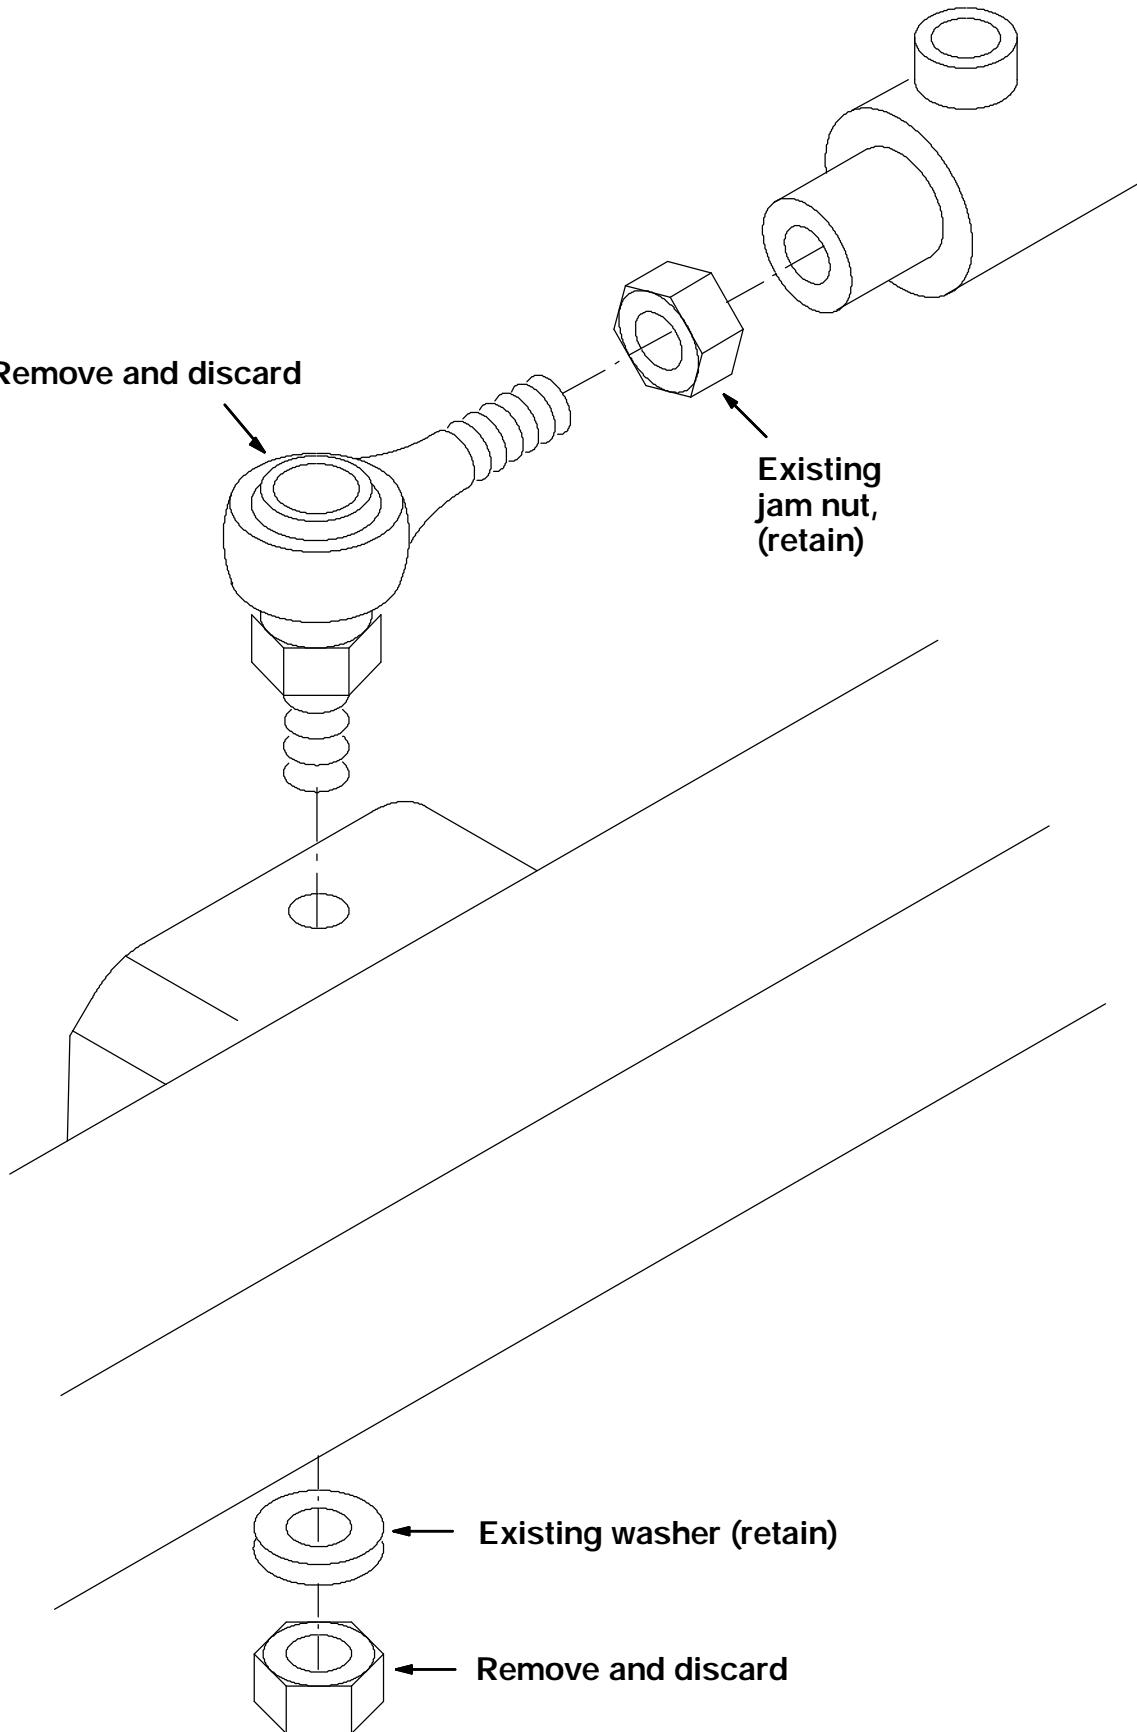

FIG. 3 - Old Style Front Steering Cylinder Balljoint Assembly
(Refer to FIG. 3 and 4)
5. Remove the nut from the bottom of the existing ball joint at the front of the steering cylinder. Lift the cylinder up far enough to remove the balljoint from the steering cylinder. Loosen the jam nut on the cylinder. Remove and discard the existing ball joint. Retain the jam nut. (Refer to FIG. 3 and 4)
1. Install the new balljoint (1) and existing jam nut in the steering cylinder in the same location and orientation as the old ball joint. (Refer to FIG. 3 and 4)
2. Place the hex screw (2) and flat washer (5) through the new balljoint (1) end. Position the sleeve (3) under the balljoint. Place the hex screw (2) through the mount hole on the machine frame. (Refer to FIG. 3 and 4)
3. Install the nyloc nut (4) on the new screw (2). Tighten the screw (2) and nut (4) to 240 ft lbs. This must be done or the balljoint may loosen up over time. Go back and tighten the jam nut on the steering cylinder. Tighten the jam nut very firmly. (Refer to FIG. 3 and 4)